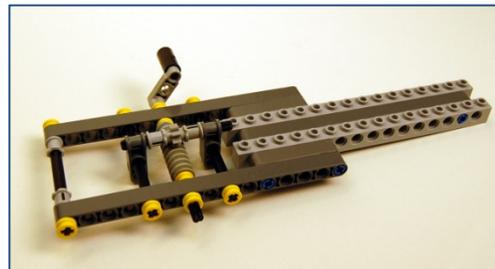

Figure 4. Model of a Screw Machine
1. ( ) Carefully examine the model of the Screw Machine shown in Figure 4.